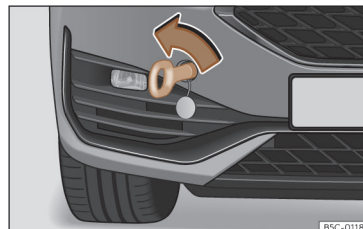

Fig. 48 Right side of the front bumper: towline anchorage in position.
- Screw the towing eye in the housing by turning it as far as it will go **anticlockwise**»» **Fig. 48** »» ⚠. Use a suitable object